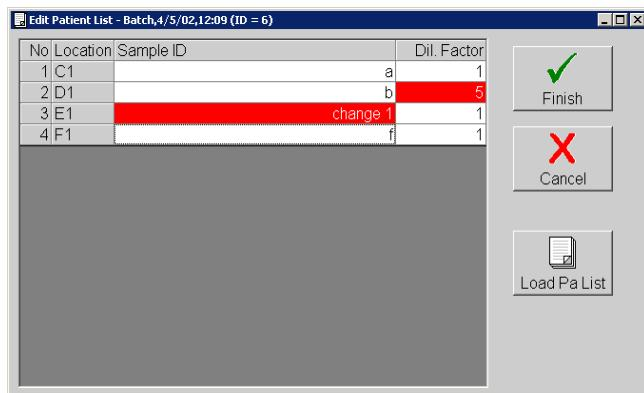

Figure 5-33. *Edit Patient List Dialog Box*
While editing the database, the system marks the changes you make in red text. This distinguishes the change from the patient information entered into the original batch. Patient list entries are case-sensitive. Figure 5-33 shows an edited patient list.
2. Select the desired batch containing the patient list that you want to edit and click **Select**. The **Edit Patient List** dialog box opens similar to Figure 5-33.